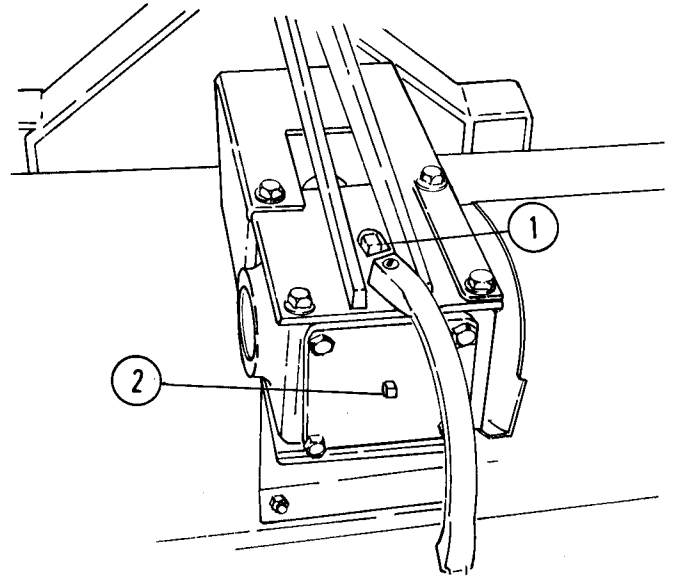

Fig. 4 — Filling Gearbox
2. Remove breather/fill plug as shown in Figure 4.